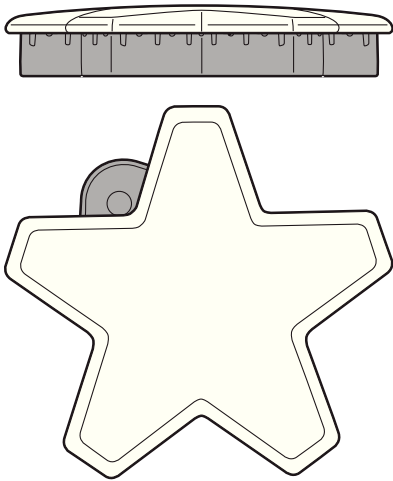
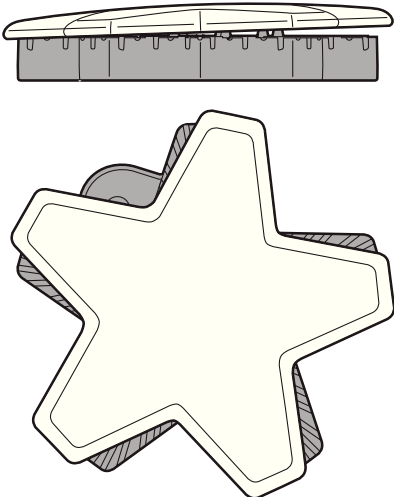

Figure 13: Correct Burner Cap Placement
Figure 14: Incorrect Burner Cap Placement
- Check each burner to make sure there is no gap between the burner cap and burner base. See *Figure 13* and *Figure 14* for examples of correct and incorrect placements of the burner cap.
- You may gently try to move the burner caps from side to side to check if the caps are properly placed on the burner bases. When properly placed, each burner cap will rest flat on top of its burner base, and completely cover the star-shape of the burner base when viewed from the top as shown in *Figure 13*.
Each STAR® burner has its own electronic igniter that sparks when the burner is turned on. Each burner should light in 4 seconds or less. If a burner does not light, check to see that the burner cap is positioned correctly on the base (see *Figure 13* and *Figure 14*).